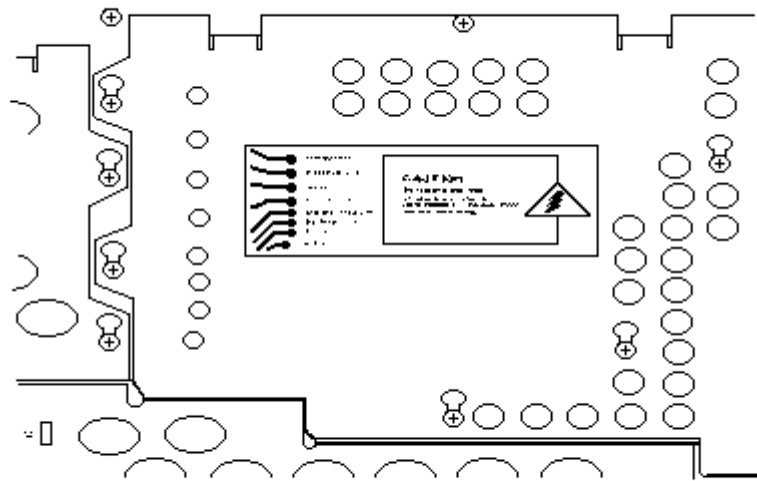

Figure 8.11-1. Adjustment Control Locations
6. Before making any adjustments, become familiar with Figure 8.11-1, which shows the locations of controls on the high voltage access plate.